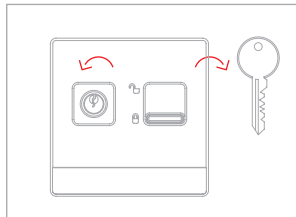

Fig. 2
- Fig. 2: Turn the key counterclockwise, remove the key